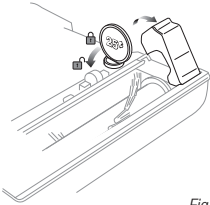

Fig. 9
- 4 Use a coin to remove the trap door if you need to remove the brushroll to either clean it or replace it. (Fig. 9)